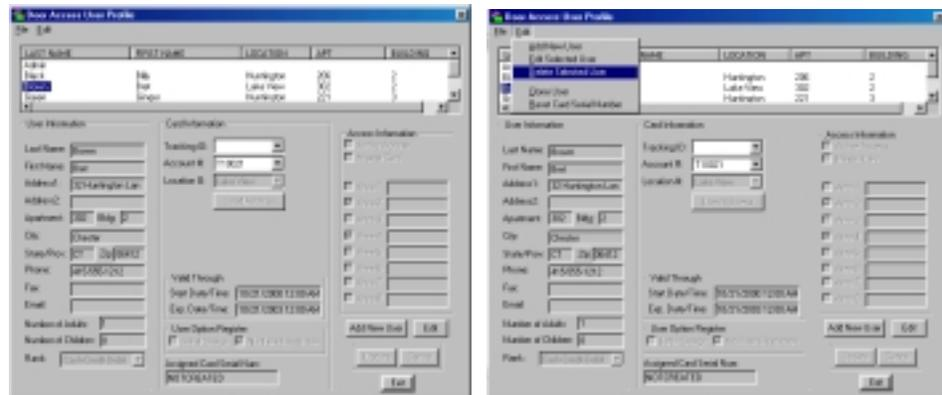

Figure 11.24 Deleting a User
1. In the Door Access User Profile window click the User to delete from the Users List Window (Figure 11.24).
2. Select Delete Selected User from the Edit drop-down menu (Figure 11.24).